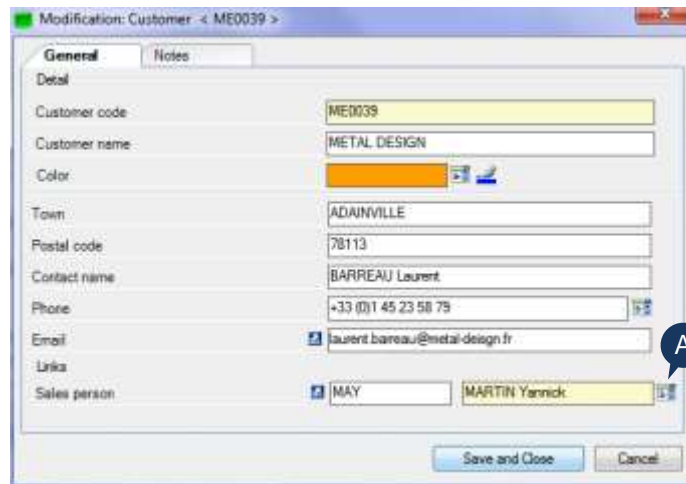

Figure 43 – The entity form
- A Colors can play a significant role in the layout of the schedule. Depending upon the display modes configured by the administrator, colors can focus on such or such piece of data. When you create an entity (Figure 43, page 49), it is automatically or manually assigned a color, according to the administrator's setting. Clicking this button displays this window. ↓